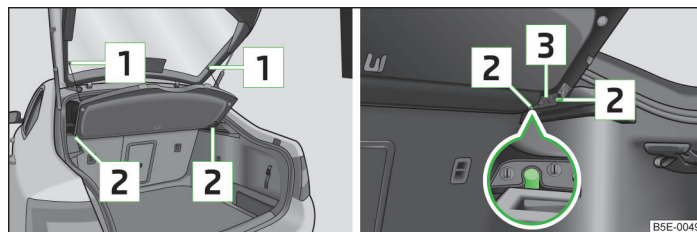

Fig. 87 Removing/installing the luggage compartment cover
- Unhook support straps **1** » Fig. 87.
- Place the recesses of the cover **3** » Fig. 87 over the holders **2** in the side trim panel.
- The recesses in the cover **3** » Fig. 87 must lock in the holders in the side trim panel **2**.